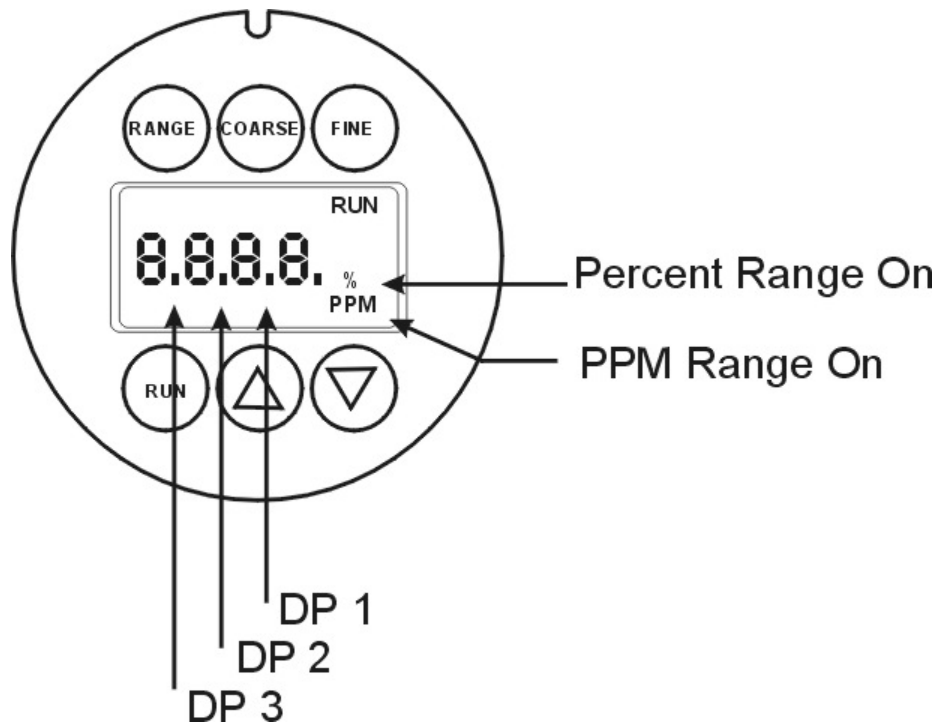

Figure 1-1: Range Selection
The standard Insta-Trans is housed in a rugged NEMA-4 rated metal case with all switches and the display accessible from the outside. Figure 1-1 illustrates the Insta-Trans display and switches while Table 1-1 shows the decimal point (DP) location for the various ranges.